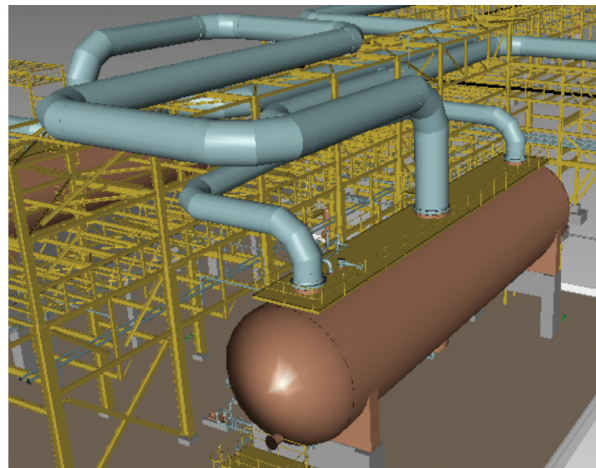

FIGURE 3. A large, horizontal flare-unit KO drum can require a very high piping arrangement
At the flare unit, the KO drum is even larger than the process unit drums, and as a result, the main flare header at the inlet to the vessel is very high, as can be seen in Figure 3. Consequently, the main flare header at the flare-unit battery limits (BL) is also very high. Since the flare header in large, new, petroleum refineries is normally very long (about 2 km), it means that at the farthest point from the flare unit the header is at least 5 m higher than at the flare-unit battery limits. This installation requires a lot of structural steel to maintain the flare header at the required height, and consequently high investment costs for the pipe rack are required (Figure 4).